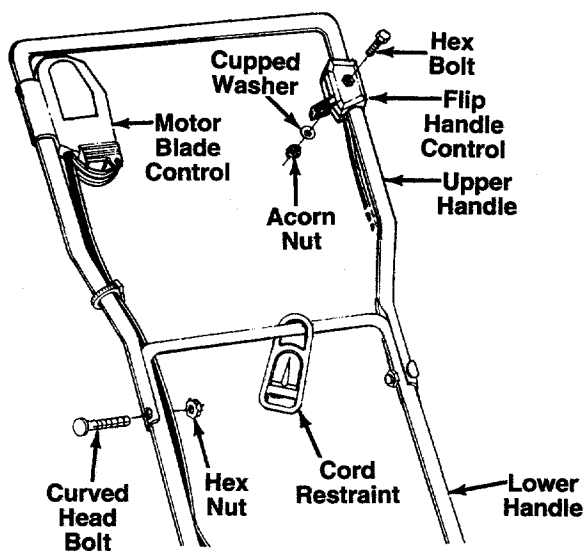

FIGURE 3.
1. Place the cord restraint onto the lower handle as shown in figure 3.
1. With the cord restraint on top of the lower handle as shown in figure 3, place the upper handle in position over the lower handle. The motor/blade control must be on the right side (chute side) of mower. Secure the upper handle using curved head bolts and hex nuts. The head of the bolts should be to the outside of the handle. Washer on hex nut goes against the handle. Tighten securely.